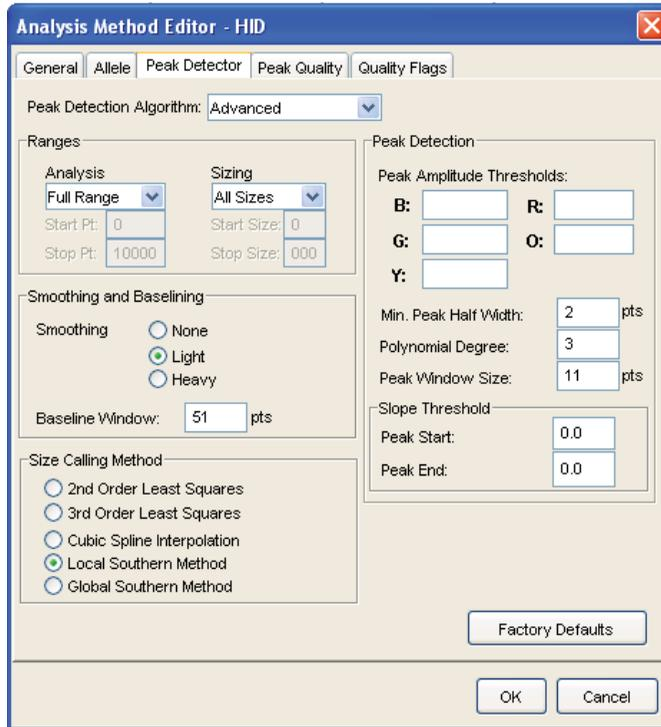

Figure 23. The GeneMapper® ID Peak Detector tab.
10. Select the Peak Detector tab (Figure 23). You will need to optimize these settings. In-house validation should be performed.
3. The peak window size shown in Figure 23 is not the default setting. It has been changed to 11 from the default value of 15. This ensures that the software can resolve alleles in the ladder that are 1 base apart for the larger loci, such as D1S1656, D12S391 and D2S441.
10. Select the Peak Detector tab. We recommend the settings shown in Figure 23.
3. The peak window size shown in Figure 23 is not the default setting. It has been changed to 11 from the default value of 15. This ensures that the software can resolve alleles in the ladder that are 1 base apart for the larger loci such as D1S1656, D12S391 and D2S441.